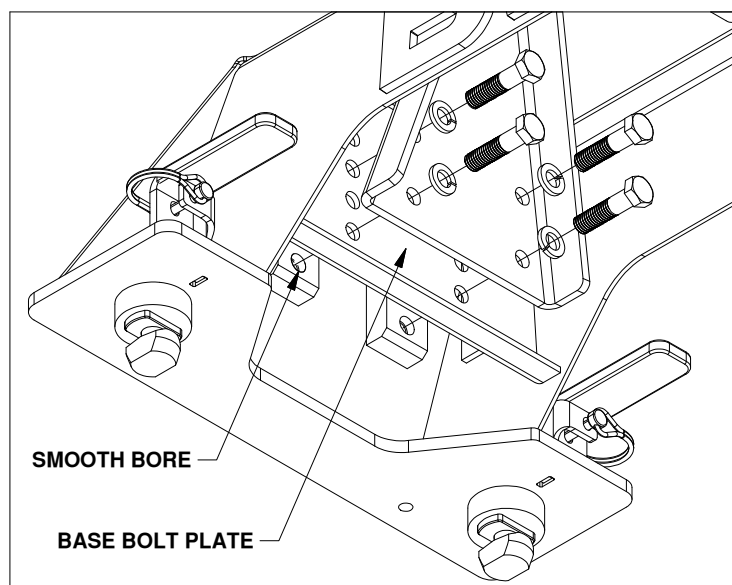

Figure A3: Passenger pivot arm mounting location.
- Secure arms.** Locate both pivot arms, the four threaded blocks, eight 1/2" cap screws, and eight 1/2" lock washers. Place the lock washers over the cap screws. Align the flat side of the pivot arm flat against the bolt plate and install four 1/2" cap screws through the holes on the arm, holding the arm in place, as shown in Figure A3. Note that the sides of the block have threaded holes on one side and smooth bored holes on the other side. When installing the threaded blocks, it is critical that the side with the smooth holes is flat against the bolt plate. It is also crucial that each of the five holes in the threaded block matches up with the five vertical holes in the bolt plate. Pass the threaded blocks under the base, align the block with each set of screws, and start each screw, as shown in Figure A3. After all the screws are started through the arms, torque each bolt to 110 ft-lbs.